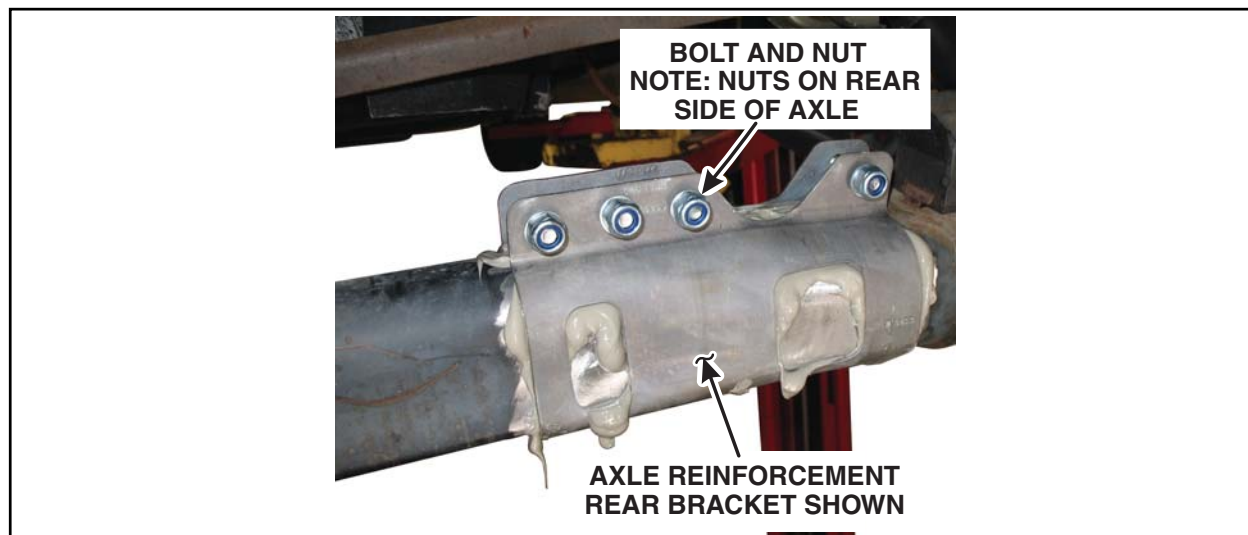

FIGURE 9
15. Pinch the axle reinforcement bracket flanges together and insert bolts from the front, pointing away from the fuel tank. Finger tighten nuts. See Figure 9.